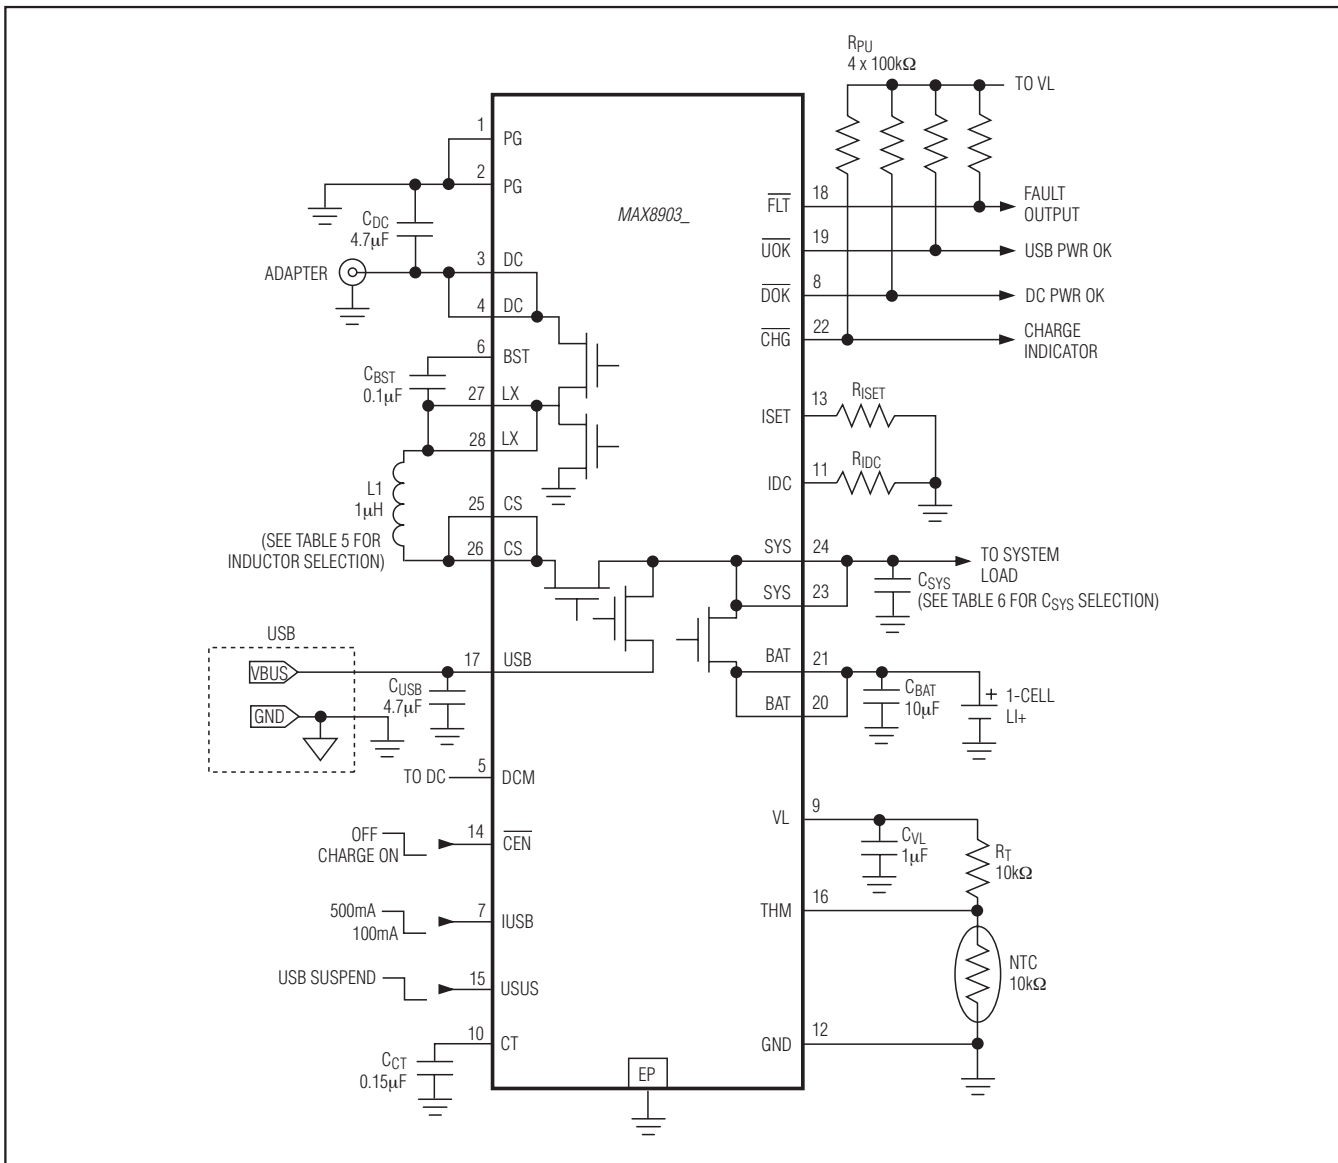

Figure 2. Typical Application Circuit Using a Separate DC and USB Connector
**Table 1. External Components List for Figures 2 and 3**